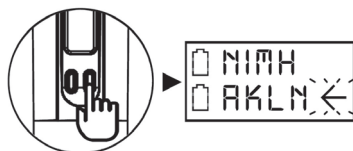

Figure 12
2. Press and hold the SET button for 3 seconds, then the arrow cursor will flash to allow changes to be made (Fig 12).